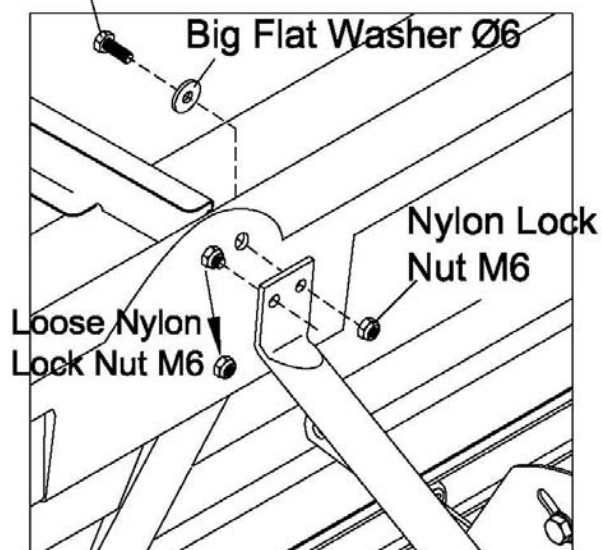

Figure 3
2. Loose one Nylon Lock Nut M6 from the hopper, assemble the Flow Control Handle to the hopper using the removed Nylon Lock Nut M6 for fixing. For the other hole on Control Handle, secure it by using one set of Hex Bolt M6x16, Big Flat Washer Ø6 and Nylon Lock Nut M6. See Figure 3 & 4.